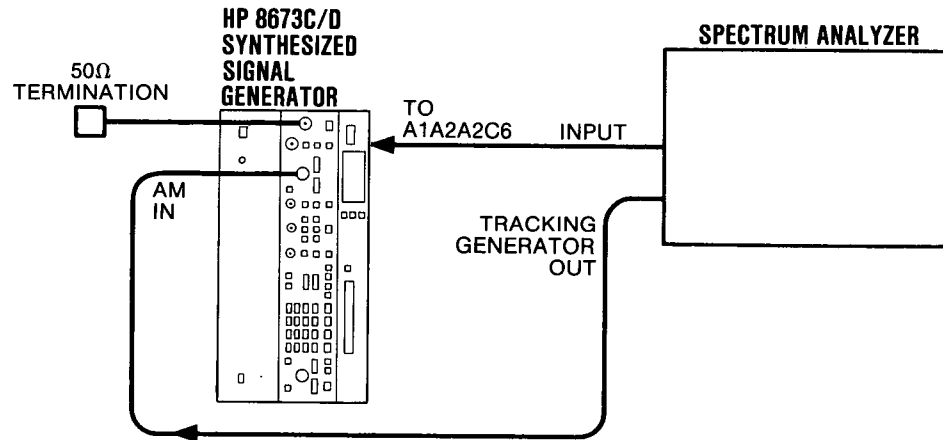

Figure 5-42. AM Bandwidth Adjustment Test Setup
1. Connect the equipment as shown in Figure 5-42.